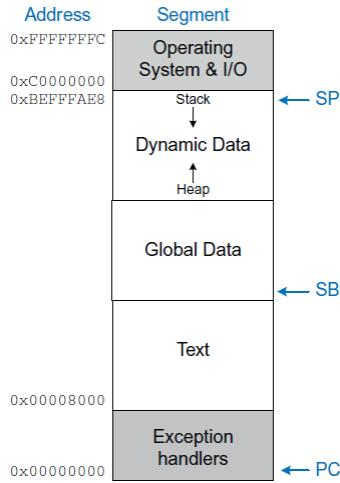

Figure 6.28 Example ARM memory map
multiples of 4 and range from 0 to 0xFFFFFFFF. Figure 6.28 shows an example *memory map*. The ARM architecture divides the address space into **five** parts or segments: the text segment, global data segment, dynamic data segment, and segments for exception handlers, the operating system (OS) and input/output (I/O).